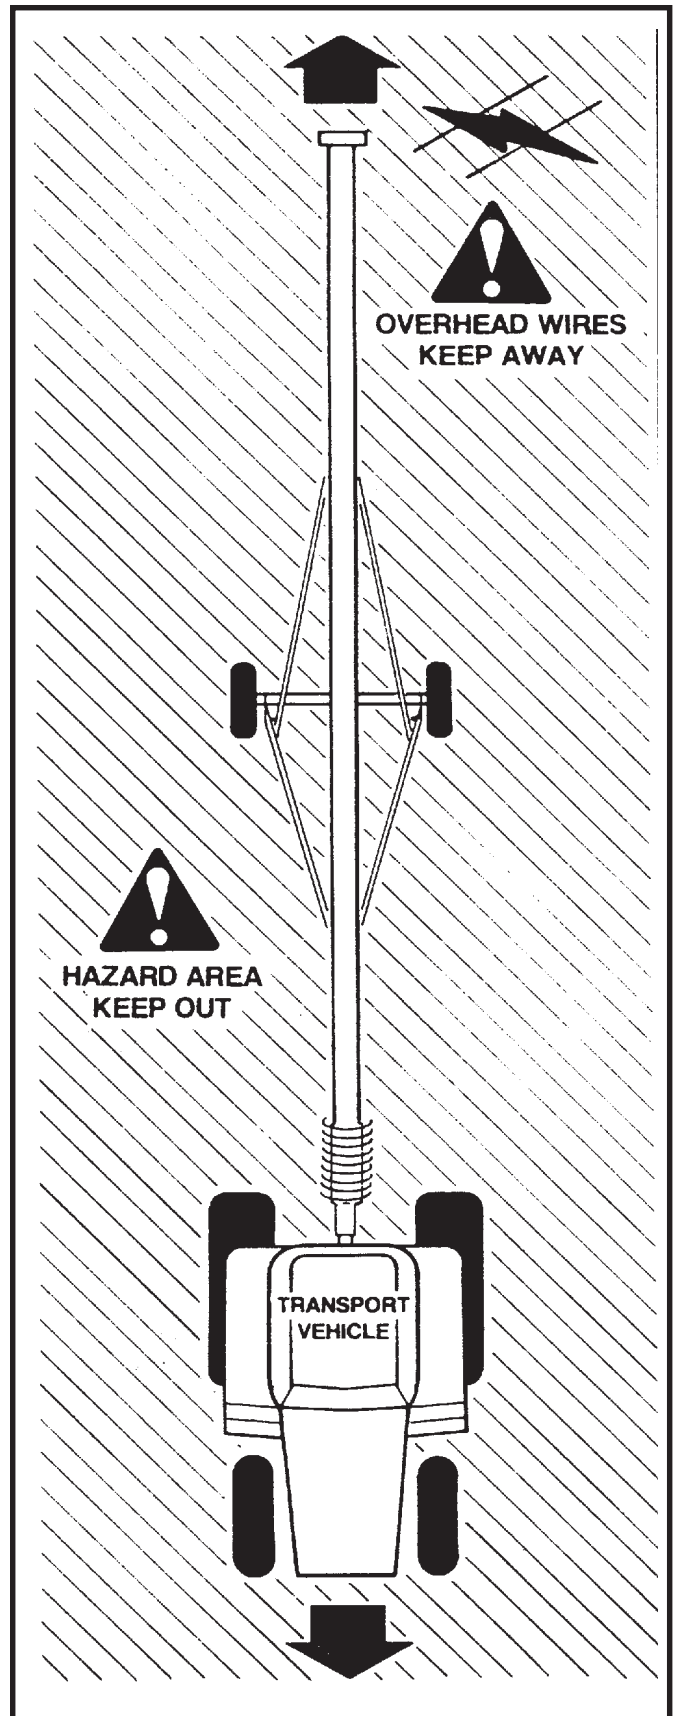

Figure No. 2
Before moving auger, make sure the area around the auger is clear of obstructions and/or unauthorized personnel (see **Figure No. 2**).
DO NOT ALLOW PERSONS TO STAND BENEATH OR RIDE ON THE AUGER WHEN IT IS BEING TRANSPORTED. (See Figure No. 2.)
1. Ensure that all unauthorized personnel are clear of transport zone. (See **Figure No. 2**)